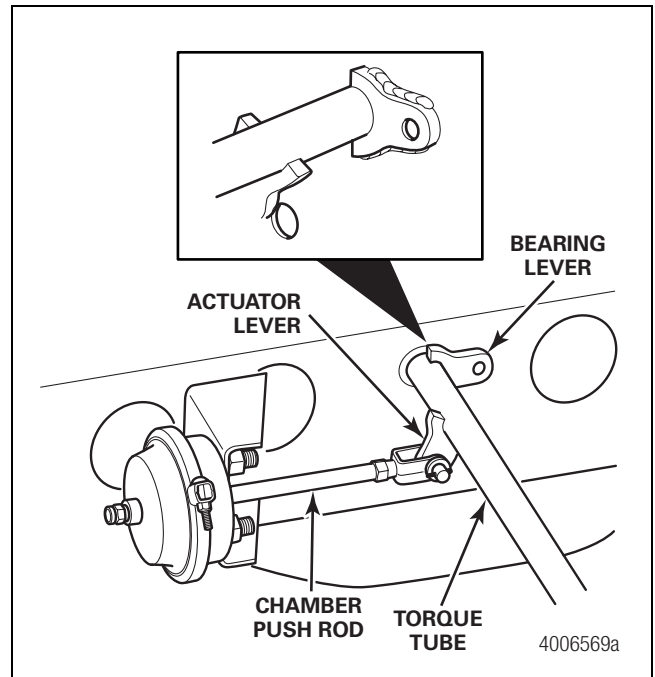

Figure 11
11. With the service chamber fully retracted, position the actuator lever over the torque tube, allowing the service chamber to locate the actuator lever. Figure 11.